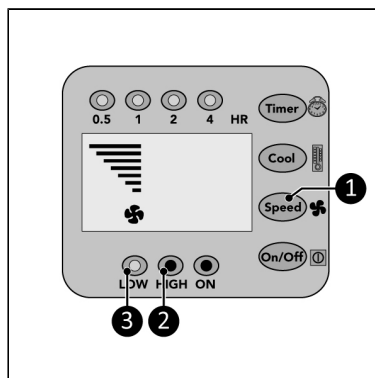

Figure 29.
1. Press the Speed button (Figure 29, pos. 1) repeatedly to set the required speed setting:
- High: high indicator (Figure 29, pos. 2) will light up and the speed graph will show 7 bars.
- Low: low indicator (Figure 29, pos. 3) will light up and the speed graph will show 4 bars